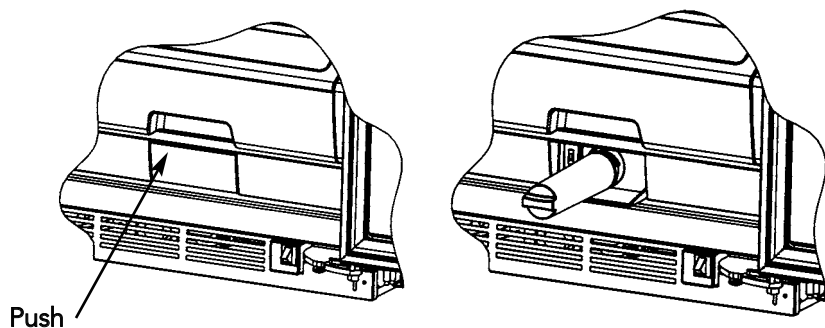

Figure 1
1. Locate water filter filter door. The door is located under the Meat Savor™/Produce drawer handle. (See Figure 1 on next page).